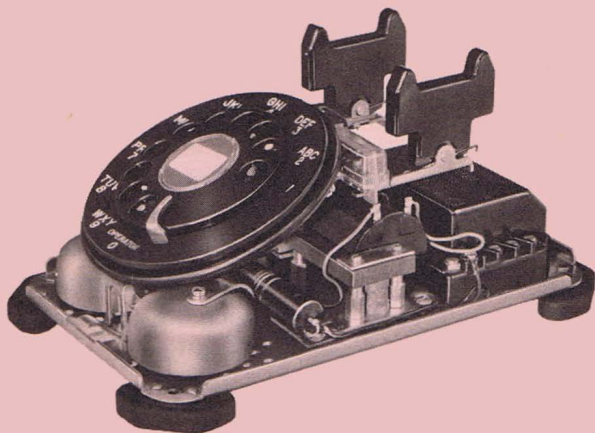

Figure 2. Base Assembly.
a. Base Assembly (fig. 2). This assembly is comprised of a dial or dial blank assembly, a ringer assembly, a hookswitch assembly, and a coil-capacitor assembly all of which are mounted on a metal baseplate.